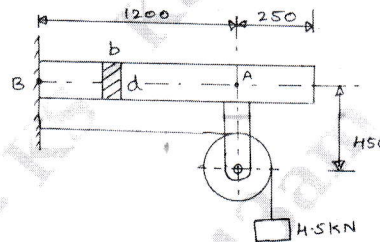

Fig. Q1 (c)
c. A Cantilever beam of rectangular cross section made of steel has permissible tensile stress of 90 MPa. It is used to support a pulley on which a load of 4.5 kN is suspended. If FOS = 2.5 and the ratio of depth to width of cross section is 2, find the dimensions of the cross section. Refer Fig. Q1 (c). (10 Marks)